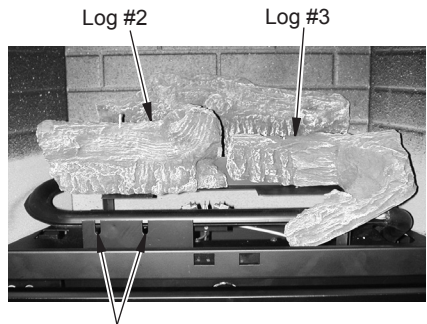

Figure 17 - Installing Logs #2 and #3
2. Install pins on log #2 into the two slots in left side of the middle bracket (see Figure 16 and Figure 17).
3. Install pins on log #3 into the two slots in right side of the middle bracket (see Figure 16 and Figure 17).